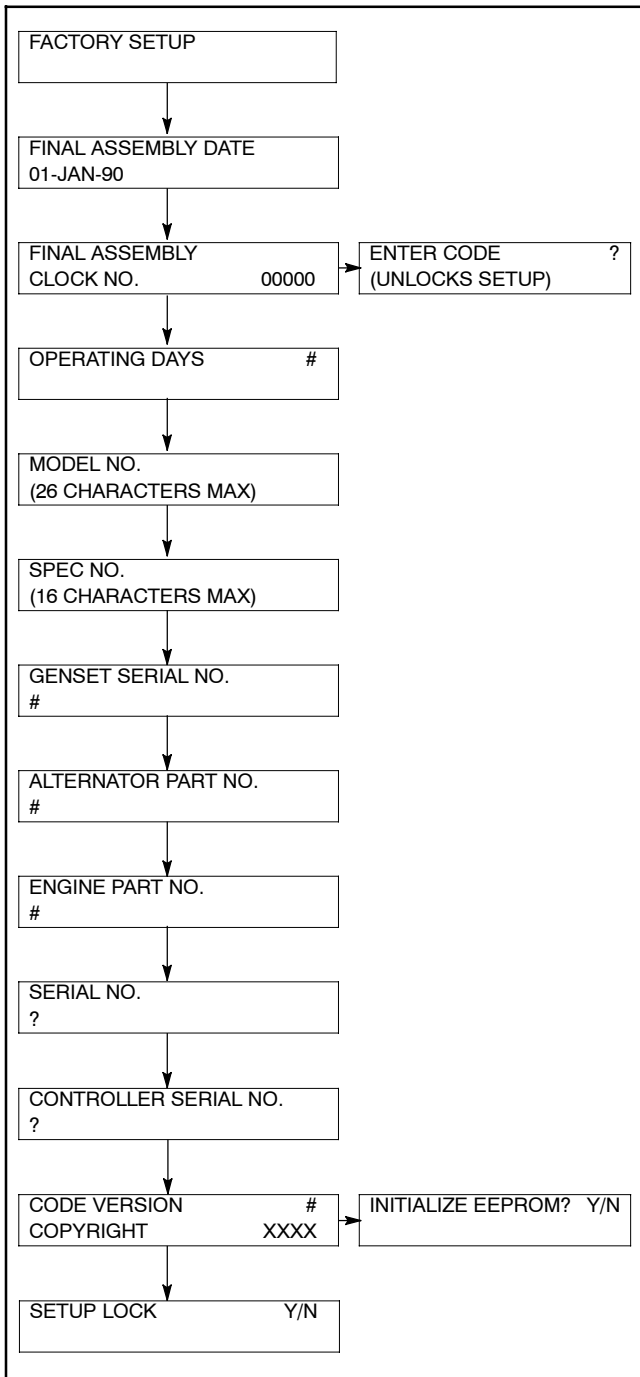
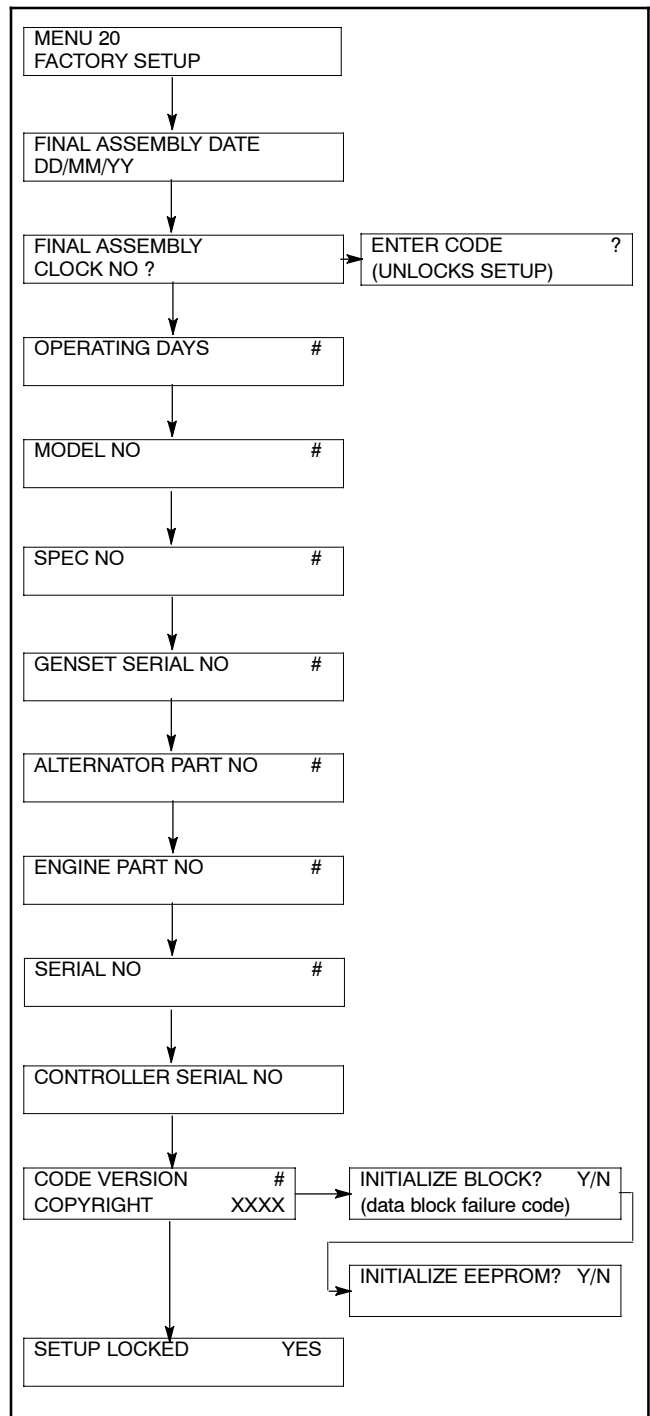

Figure 5-7 Menu 20, Factory Setup (prior to version 2.10)
Figure 5-8 Menu 20, Factory Setup (version 2.10 or higher)
- d. Use the controller keypad to go to Menu 20, Factory Setup. See Figure 5-7 or Figure 5-8 for displays.
- i. Go to Menu 20, Factory Setup. See Figure 5-7 or Figure 5-8 for displays.